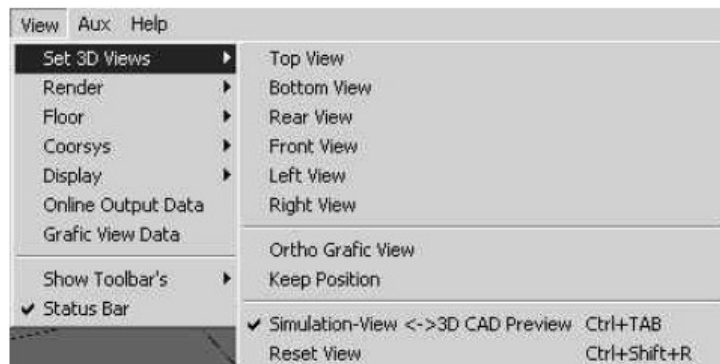

Fig. 2.14 Setting the view style
- in a view layer e.g. to observe collisions between robot and environment. To adjust the view to your requirements can be achieved by: „View\Set 3D view”, e.g. Top View (Fig. 2.14)